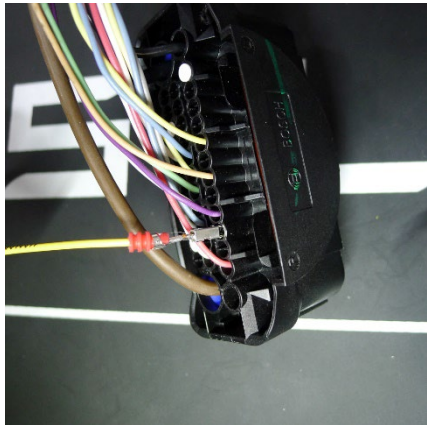
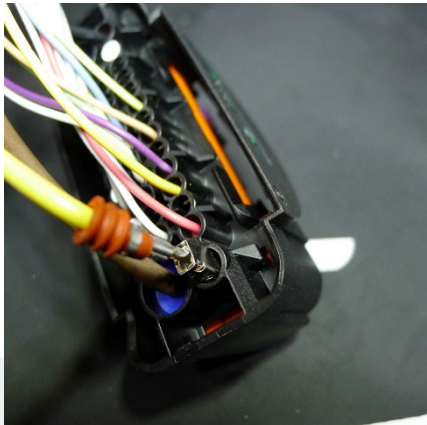

Figure 18
Figure 19
16. Insert the smaller terminal of the jumper into receptacle 28 (Figure 18) and the larger terminal of the jumper into receptacle 25 (Figure 19).